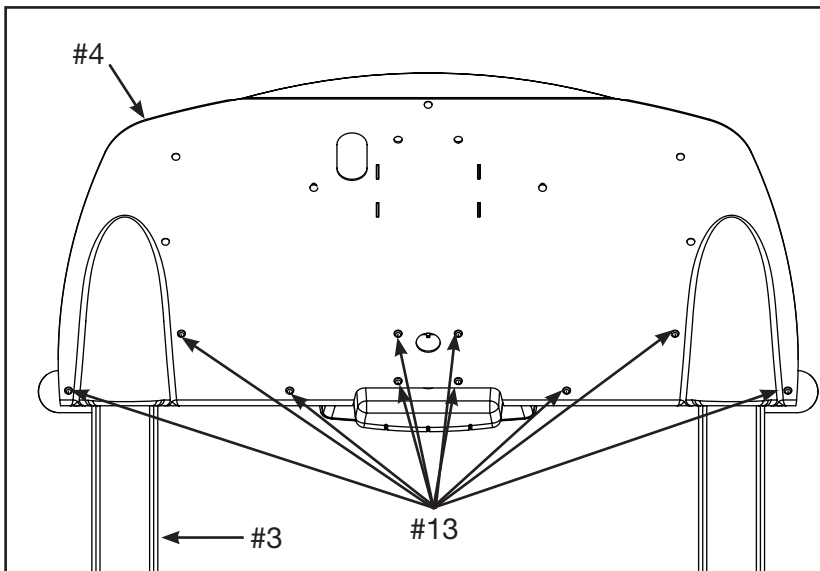

Figure 6
D. Using a Philips head screwdriver secure the console back (#4) to the upright assembly (#3) using ten screws 8-32 x .38" (#13). Fully tighten the two screws installed in step 7C. See Figure 6.